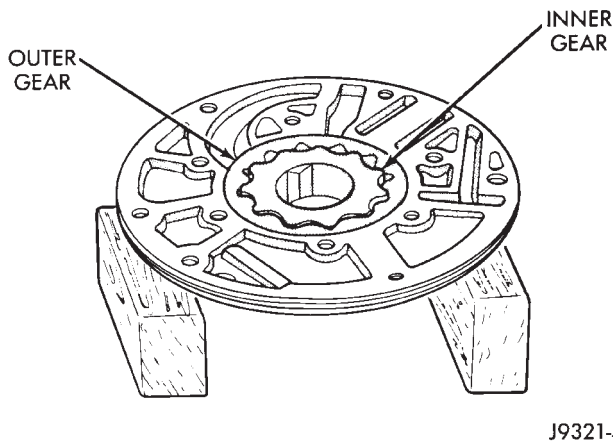

Fig. 58 Pump Inner Gear Installation
(5) Install pump inner gear (Fig. 58).